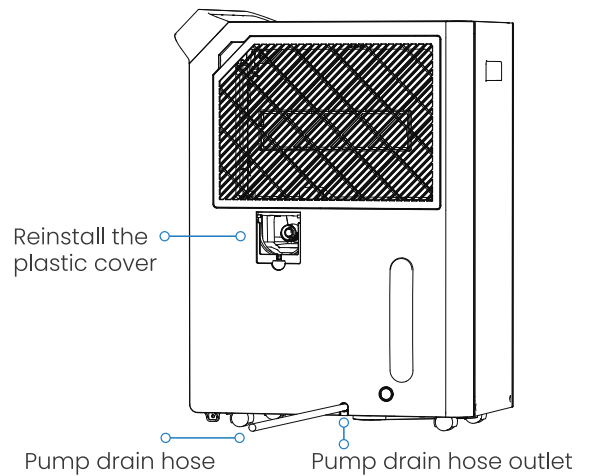

Figure 6.0
- Remove the continuous drain hose from the unit and close the drainage port cover. (See Figure 6.0)
- Insert the pump drain hose into the pump drain hose outlet for at least 15 mm (See Figure 6.0), then lead the water hose to the floor drain or a suitable drainage facility.